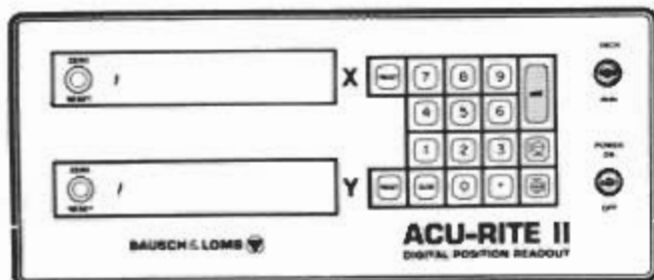

Figure 3-6. Console Status: Fault Indicator
- Push the ABS key (see Figure 3-6). The light will go out, changing the console to the incremental mode. The fault indicator(s) will light again, indicating that the fault circuits are working properly in the incremental mode.
- Make proper selection on the INCH-mm switch (see Figure 3-6) to be certain that measurements will be made and displayed in the correct dimensions (inches to millimeters).